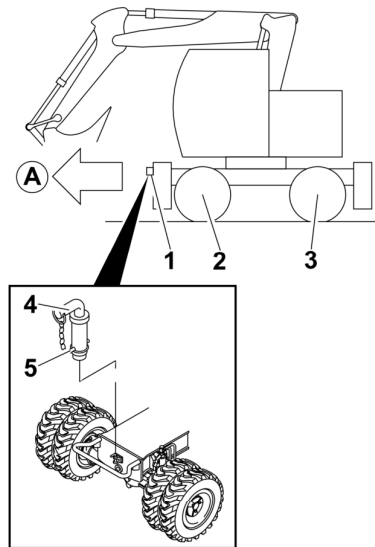

Fig. 821: Towing
- No coupling on undercarriage in travel direction. (see: fig. 821, page 240)